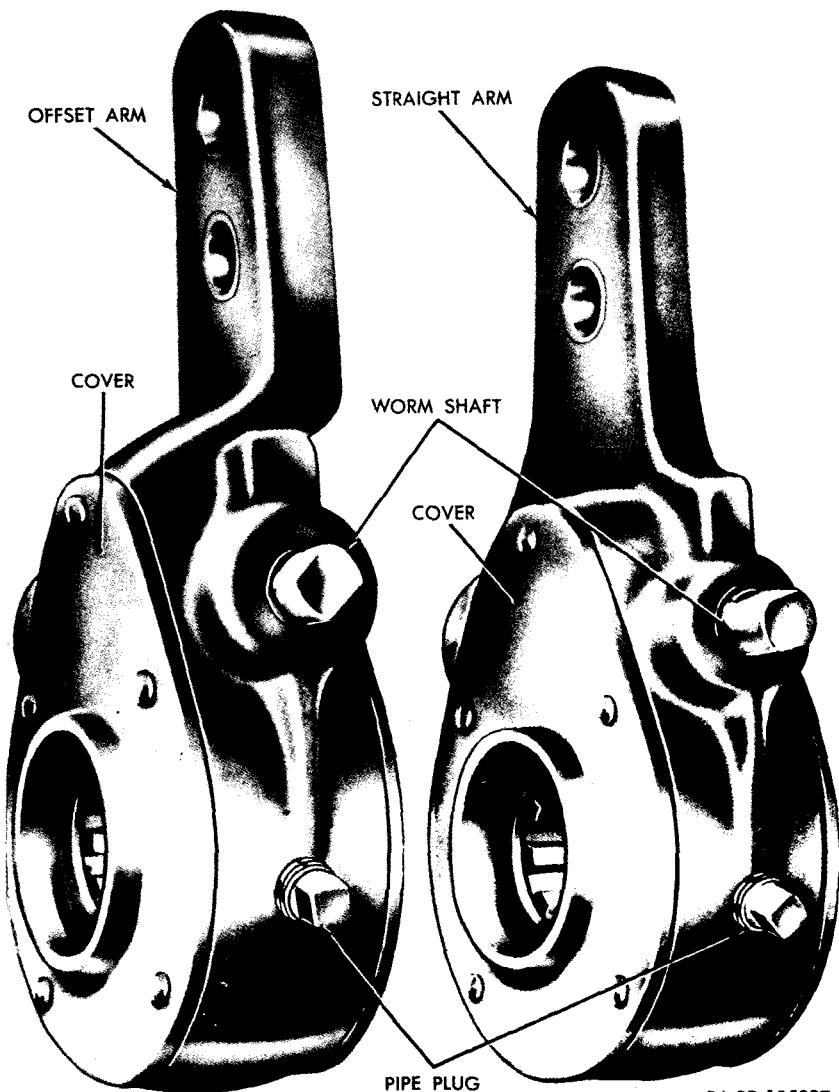

Figure 165. Type K slack adjuster—straight and offset arm.
b. Types. Slack adjusters are classified by types according to their torque capacities. In the past, the types were identified by the letters G, K, L, R, and RB, all of which except the L type have been superseded in recent years by numbered types. The L type is still infrequently used for very light service where maximum torque is 8,000 inch-pounds. The numbered types differ from the lettered types mainly by having an improved locking device which is not subject to wear or accidental displacement of the adjustment. The torque capacity in thousands of inch-pounds, of the numbered types is indicated by the type numbers. Thus type 15 has maximum torque capacity of 15,000 inch-pounds, type 25 a maximum torque capacity of 25,000 inch-pounds, etc. Because the older types are still in service, types K, R, and RB are illustrated in this manual. All slack adjusters are made with straight, bent, or offset arms to meet installation requirements. Straight and offset arms are shown in figure 165.
- (1) In normal braking, the entire slack adjuster remains as a rigid unit and acts as a simple lever to transmit brake chamber force to brake camshaft as brakes are applied or released.
- (2) All adjustments are made by turning the worm shaft, thus rotating the worm gear and changing the angular relation of lever arm to brake camshaft. The extended ends of all worm shafts on lettered type adjusters are either flattened or squared for wrench fit. Spring-loaded ball detents, or plungers, engaging indentations in worm shafts, lock adjusted positions.